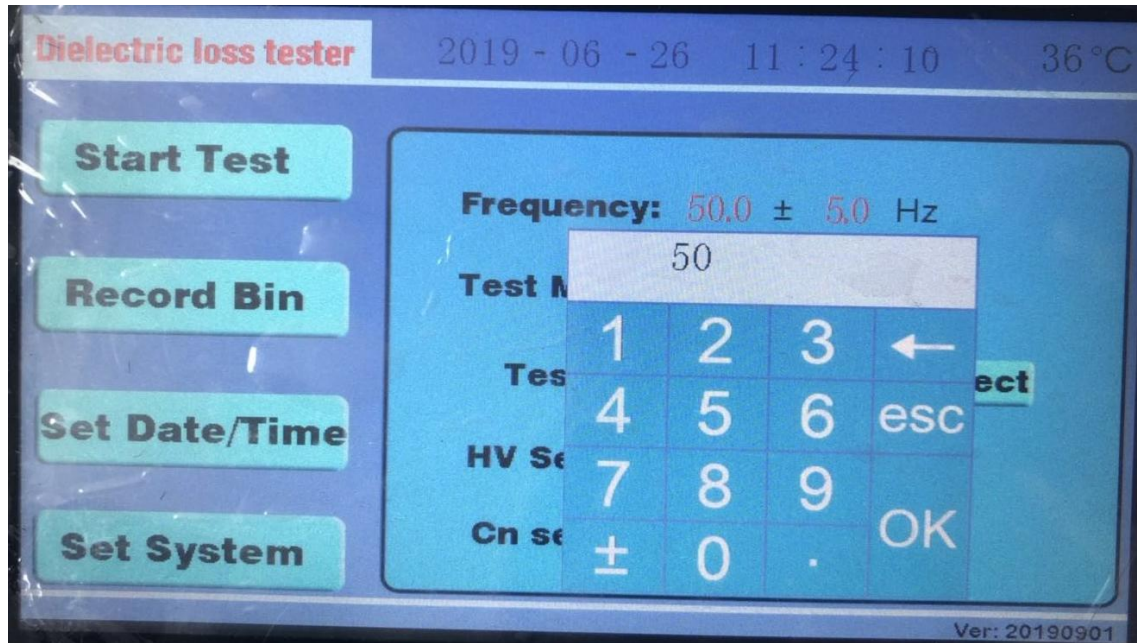

Fig. 11 Frequency modification chart
1) Modify the test frequency by clicking on the red character " $45.0 \pm 0.0\text{Hz}$ " 45.0 with a touch-screen pen or finger. Appearance of Fig.11